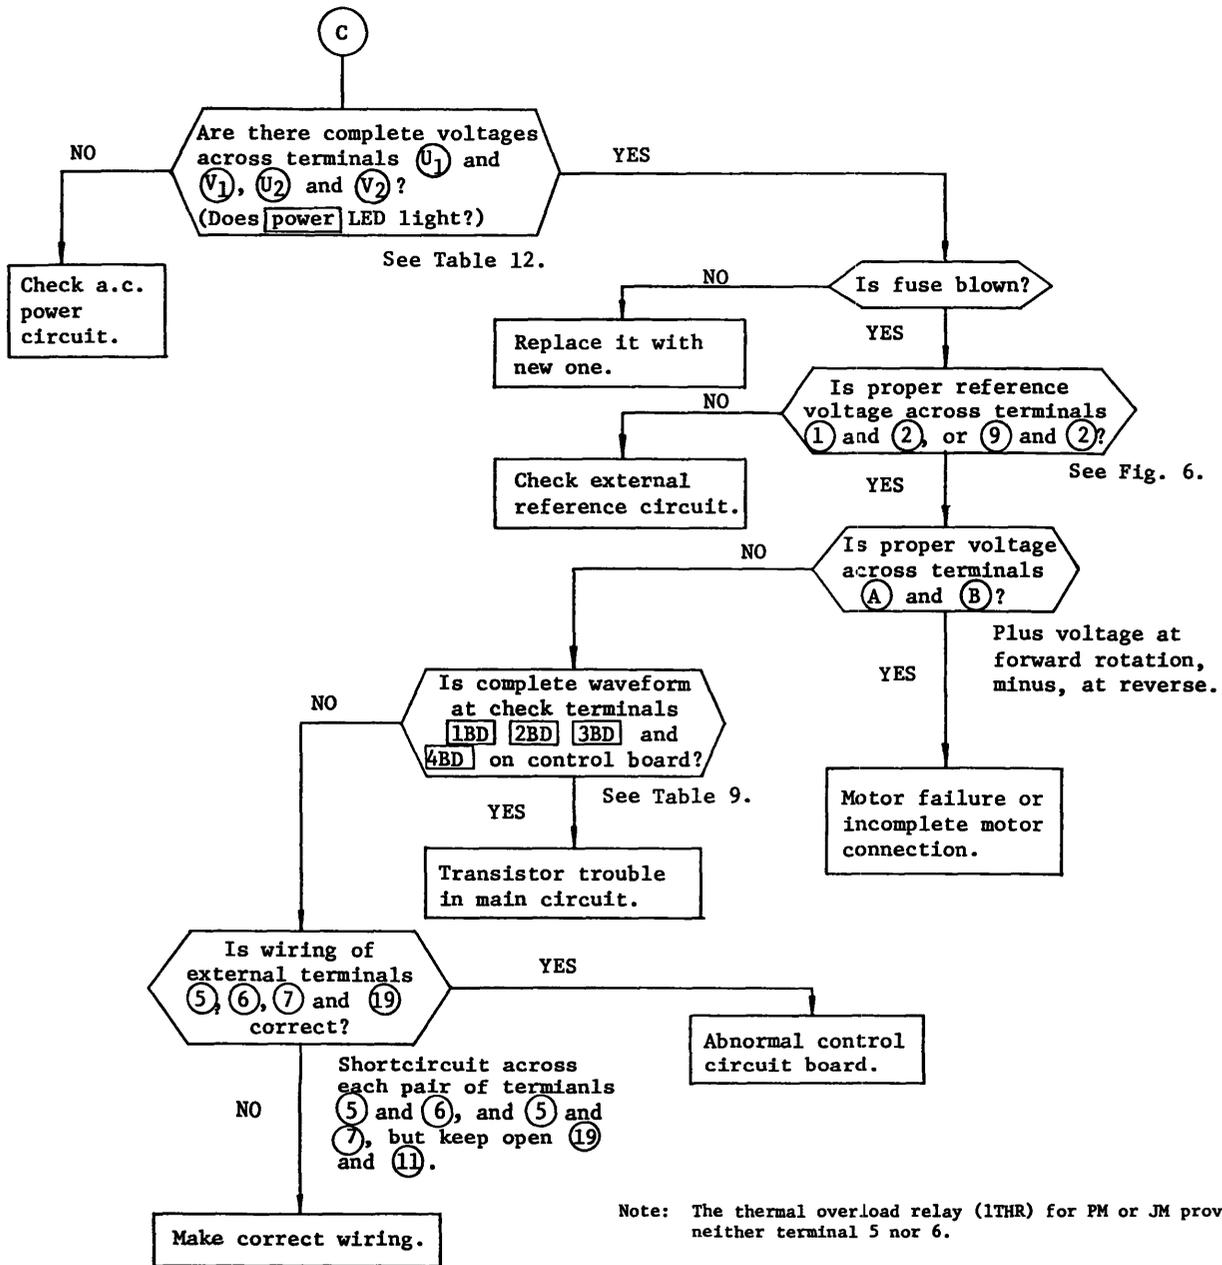

Fig. 16
- The motor does not rotate when the reference voltage is applied (Fig. 16). --- (C)